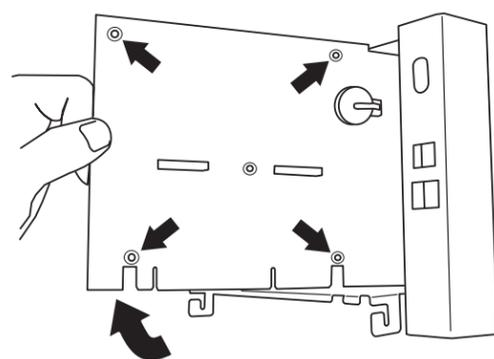

Figure 2.4 Release board from standoffs, then rotate and lift out of chassis
4. Gently prise the main board off its standoff pillars, then lift and rotate it out of the chassis (Figure 2.4).